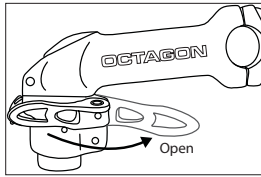

Fig. 27: Open quick release lever.
1. Open the collar quick release lever (Fig. 27).